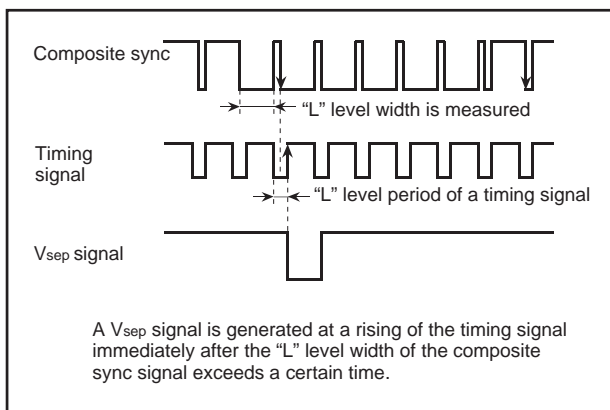

Figure 14.6 Vsep generating timing (method 2)
- Method 2 The "L" level width of the composite sync signal is measured. If this width exceeds a certain time, it is detected whether a falling of the composite sync signal exits or not in the "L" level period of the timing signal immediately after this "L" level. If a falling exists, a Vsep signal is generated in synchronization with the rising of the timing signal (refer to Figure 14.6).
Figure 14.6 shows a Vsep generating timing. The timing signal shown in the figure is generated from the reference clock which the timing generating circuit outputs.